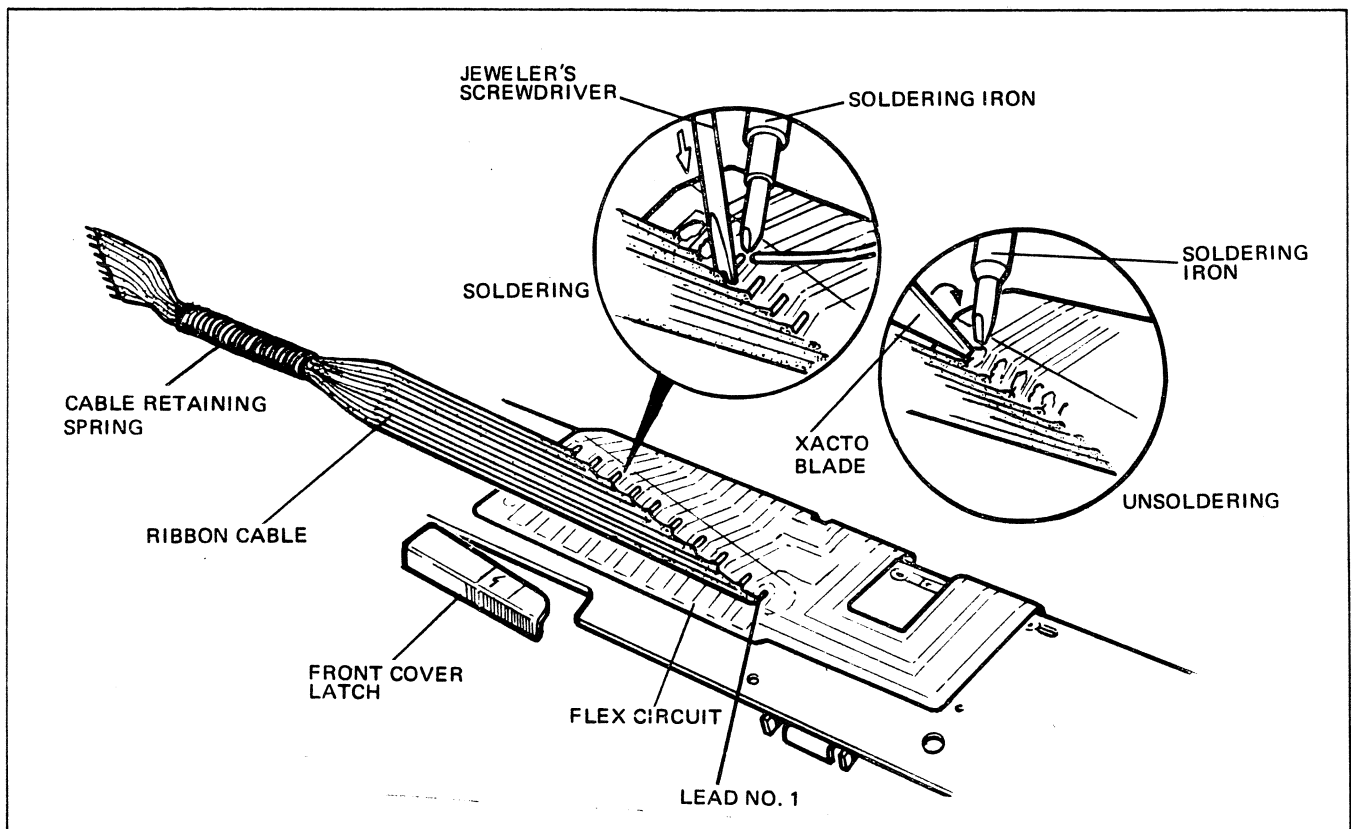

FIGURE 4-76 SOLDERING/UNSOLDERING RIBBON CABLE
39. Refer to Figure 4-76. Place the blade of a jeweler's screwdriver on top of the bare end of the number one lead exactly at the point where the insulation begins. Press down firmly to create a positive heat sink.